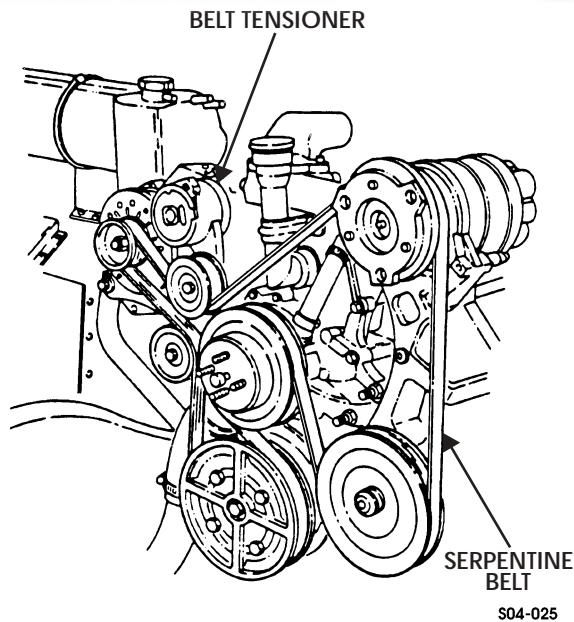

Figure 4-26: Serpentine Belt
1. Position a half-inch drive breaker bar on belt tensioner and move tensioner counterclockwise to loosen belt (Figure 4-26).